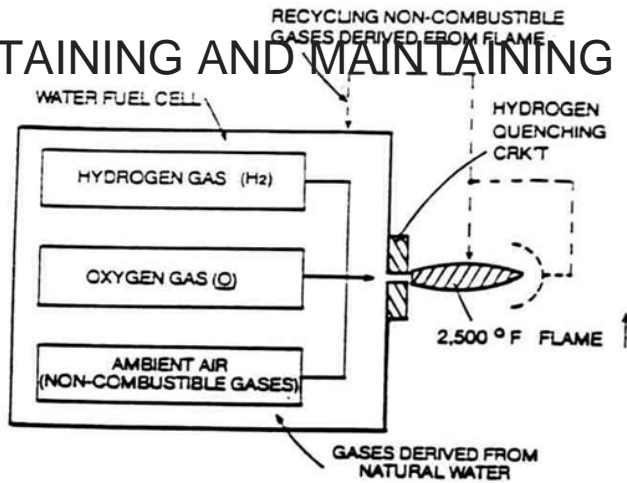

FIG. 24: RENDERING HYDROGEN SAFER THAN NATURAL GAS
expelling from said **Quenching Nozzle** (20) of **Figure 24SB** as to **Figure 24**, a **hydrogen/oxygen flame** (9) of **Figure 24SB** as to **Figure 24** is sustained and maintained regardless of the gas-rate of said Fuel Cell.